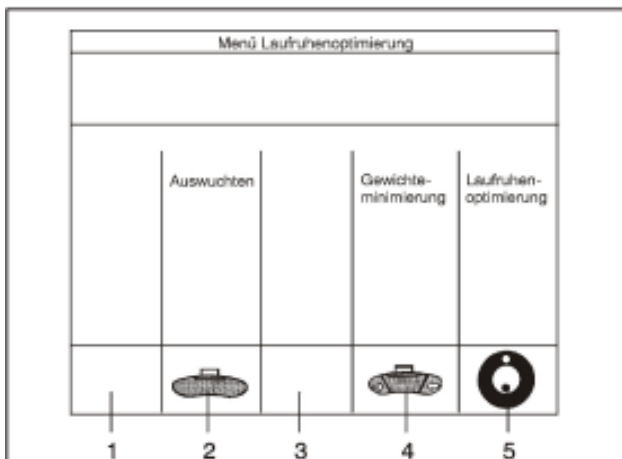

Fig. 74
For this purpose, interrupt the optimization/minimization program by pressing the ESC key or the balancing key (Fig. 74, Item 2). The electronic unit will then store the current program step, the rim dimensions and all data so far measured and signal in the middle menu field (via icon no. 31) that the program has been interrupted.
The screen as shown in **Fig. 74** „Optimization menu,, is displayed.
- Press menu key 4 (Fig. 74, Item 4) to go directly to the minimization program (no compensation of rim unbalance).
The screen as shown in Fig. 74 „Optimization menu,, is displayed.
- Press menu key 5 (Fig. 74, Item 5) to go to optimization.